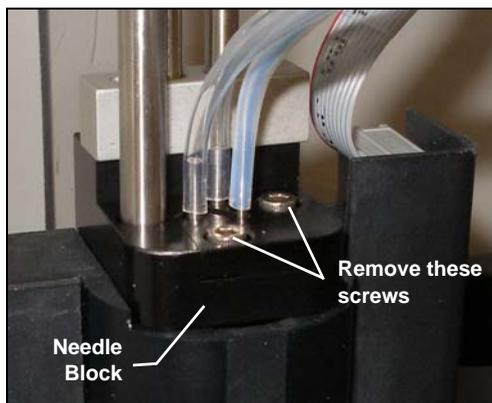

Figure 5-23. Removing the Needle Block Screws
5. Use a 2.5-mm hex wrench to remove the two screws on the top of the needle block (see Figure 5-23).